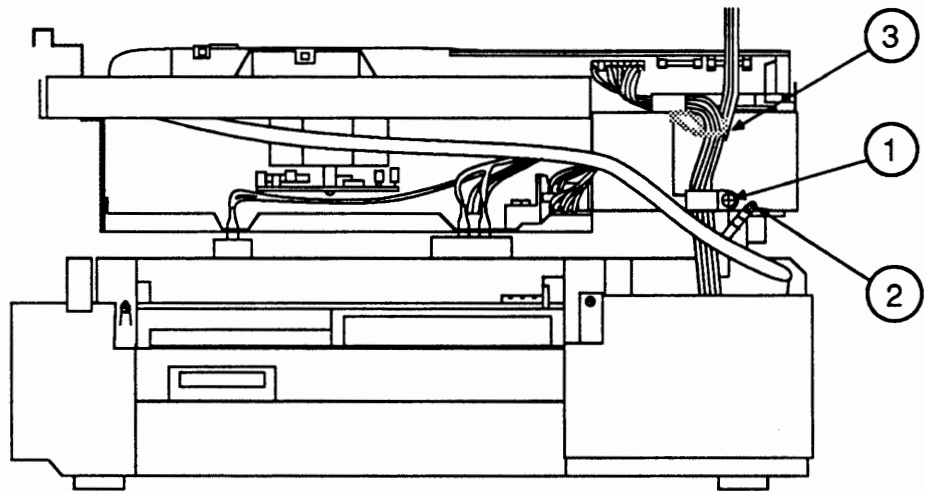

FIGURE 2-53
12. On the right, hinged side of the printer, remove the black flanged screw (Figure 2-53, #1) that secures the plastic cable clamp to the upper main body.
13. Remove the silver-colored flanged screw that connects the silver braided grounding wire to the upper main body (Figure 2-53, #2).
14. Clip off the cable tie (Figure 2-53, #3) that attaches the LaserWriter I/O Board cable and the DC Power Supply Board cable to the upper main body.